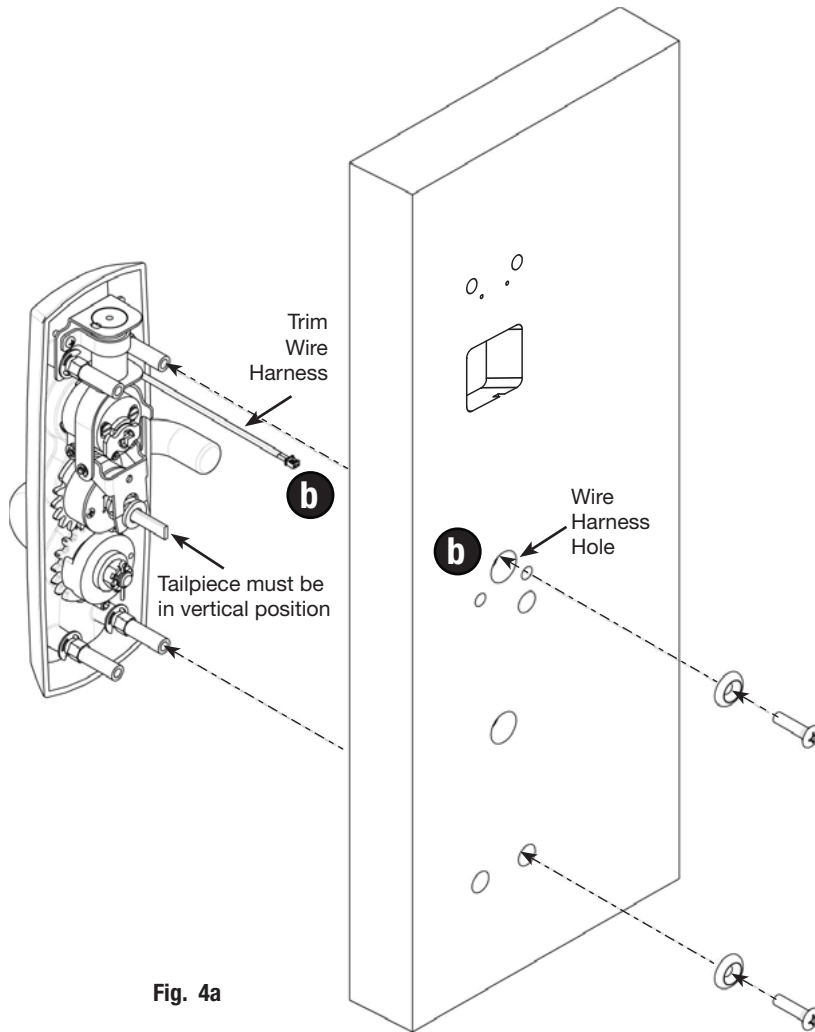

Fig. 4a
- Feed trim wire harness through wire harness hole (Fig. 4a and 4b).